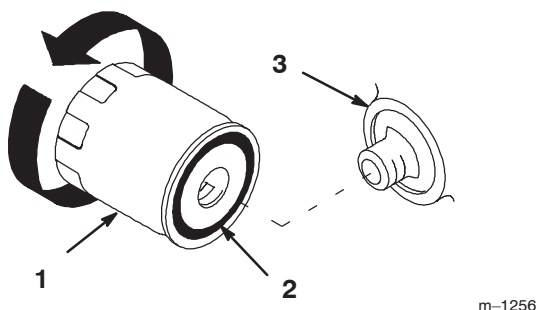

Figure 20
7. Remove the old filter and wipe the filter adapter (Fig. 20) gasket surface.
10. Apply a thin coat of new oil to the rubber gasket on the replacement filter (Fig. 20).
11. Install the replacement oil filter to the filter adapter. Turn the oil filter clockwise until the rubber gasket contacts the filter adapter, then tighten the filter an additional 1/2 turn (Fig. 20).